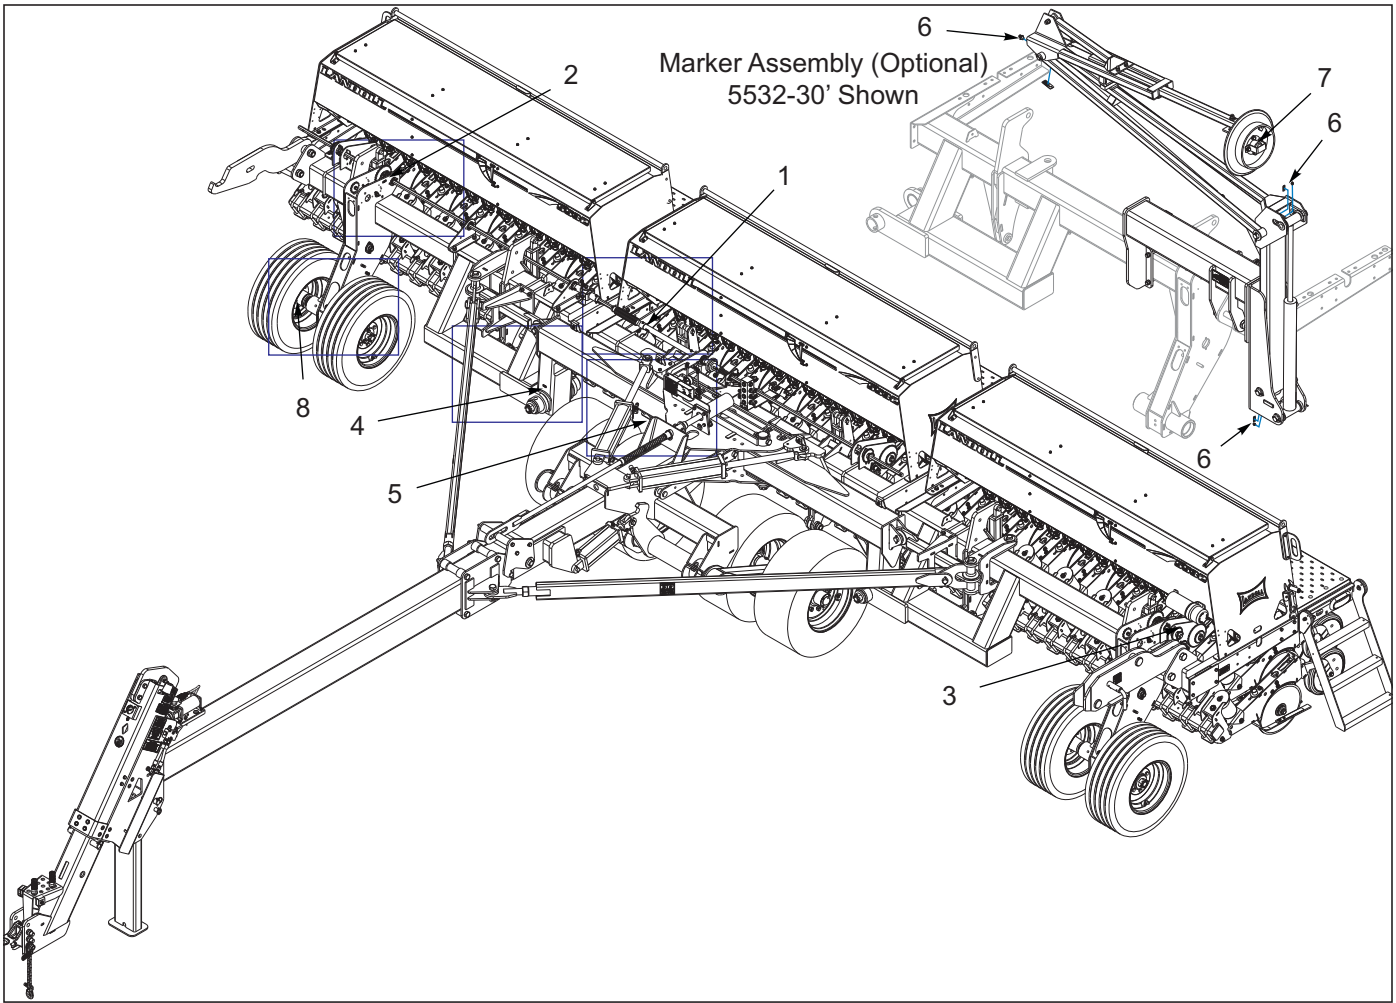
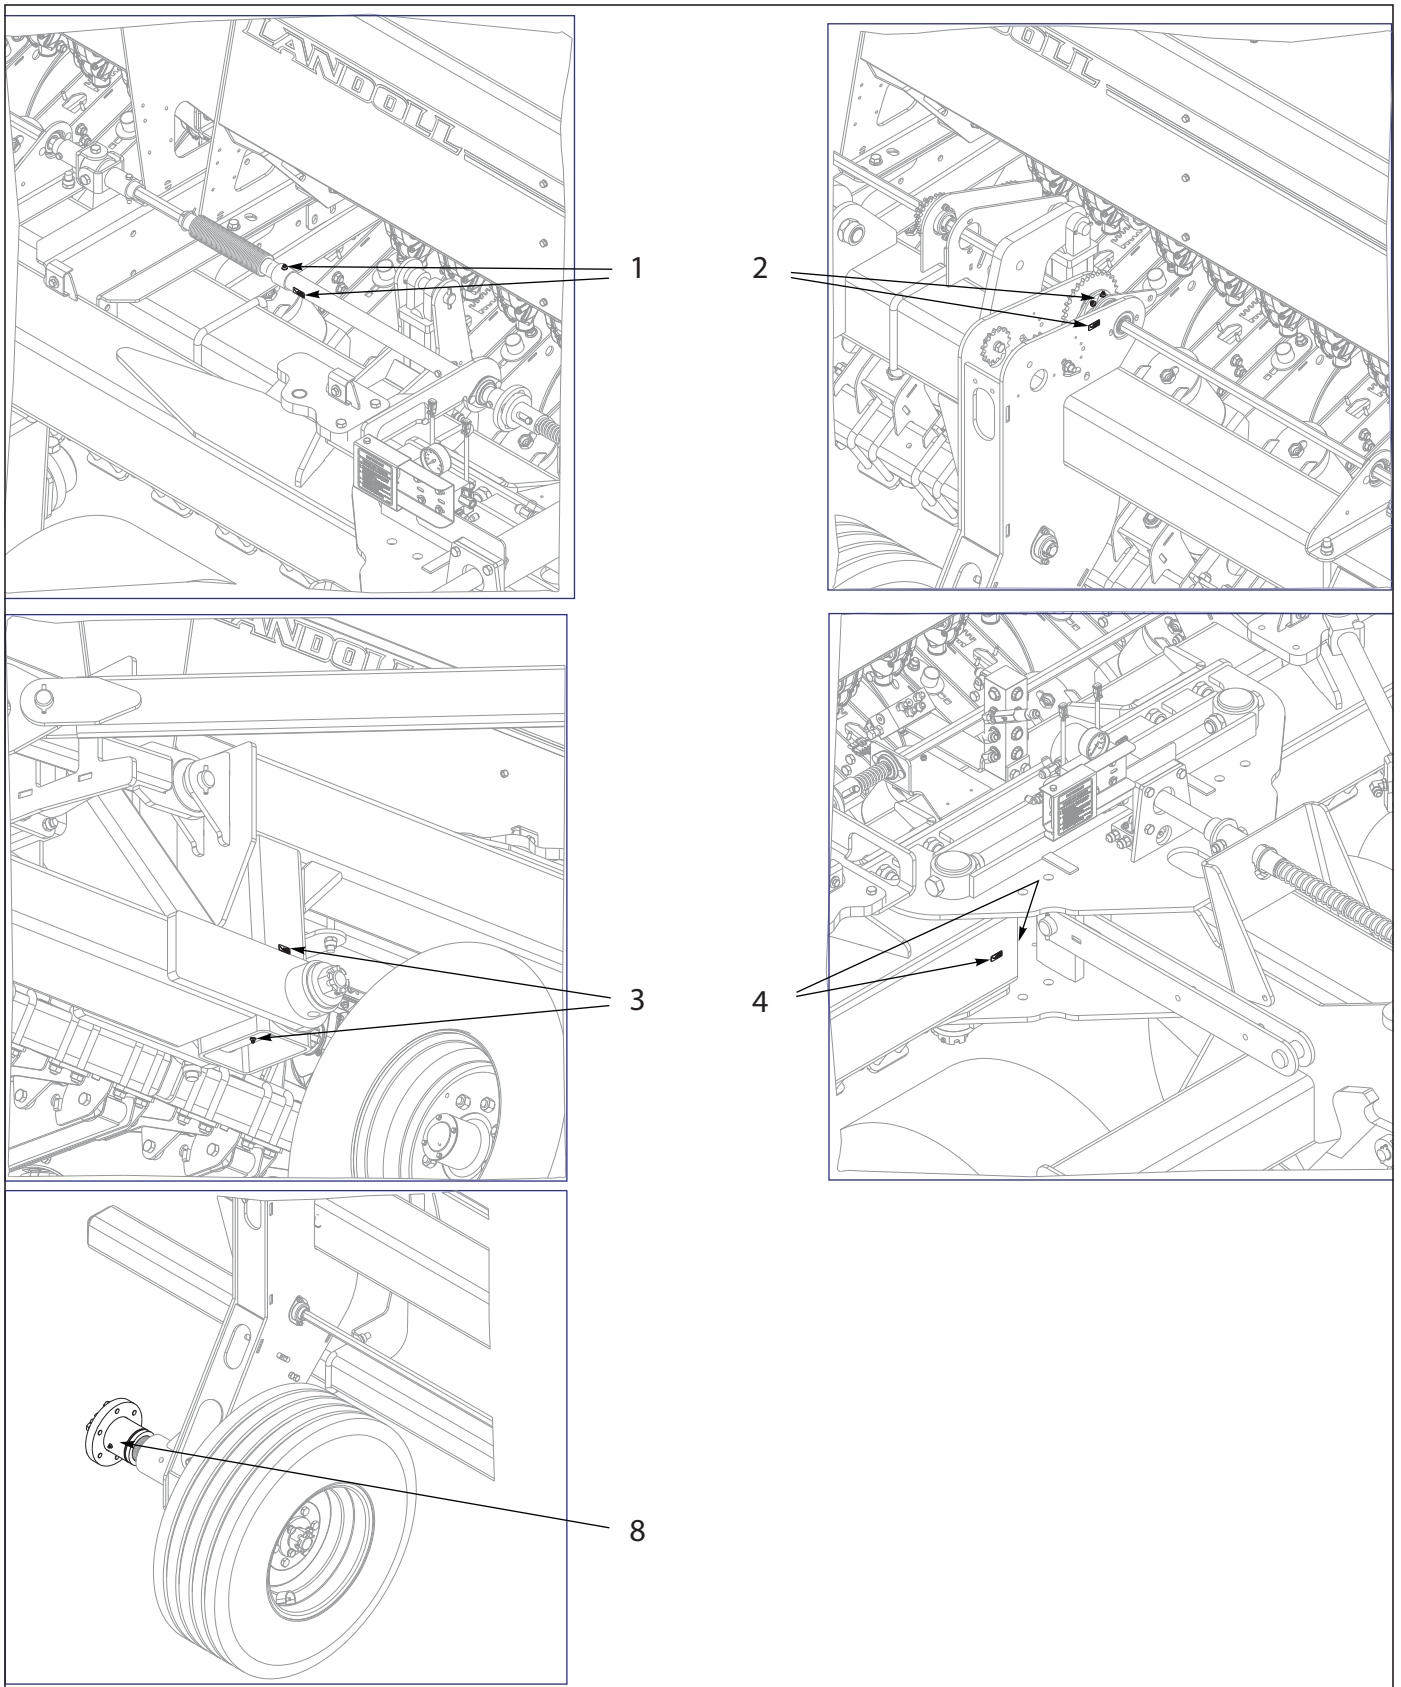

Figure 5-3: Lubrication Points (1 of 2)
Figure 5-4: Lubrication Points (2 of 2)
1. **Table 5-1** specifies the lubrication points and intervals on the 5531 Grain Drill. Proper maintenance of your machine will, under normal operating conditions, help to keep it operating at or near its peak performance for an extended period of time. Proper maintenance is also a condition of keeping your warranty in good status **See Figure 5-3** and **See Figure 5-4**.